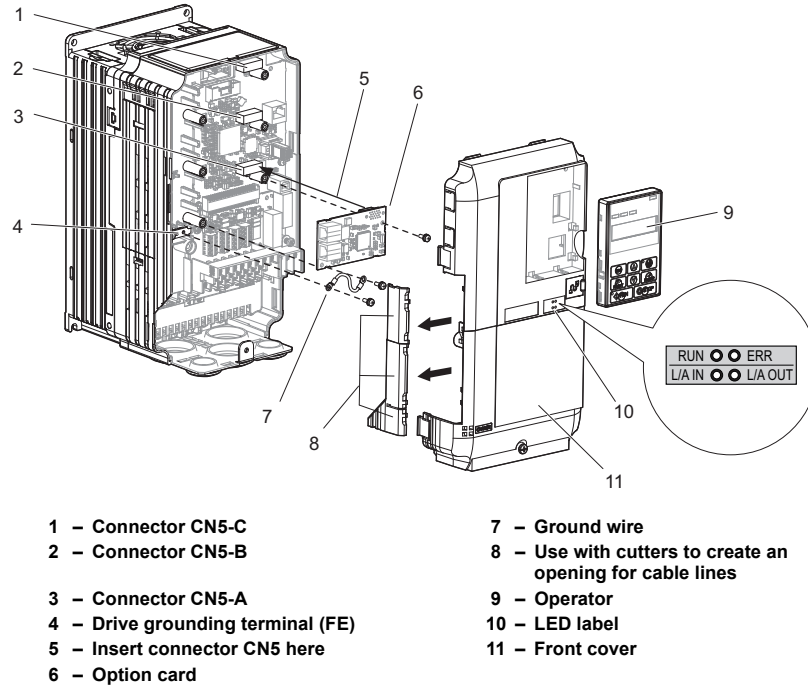

Figure 4 Installing the Option Card
6. Attach the LED label (J) packaged with the option as shown in Figure 4.